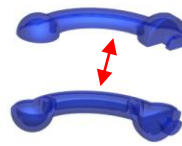

Fig. 5
4. Combine the antenna part (8). (Fig. 5)